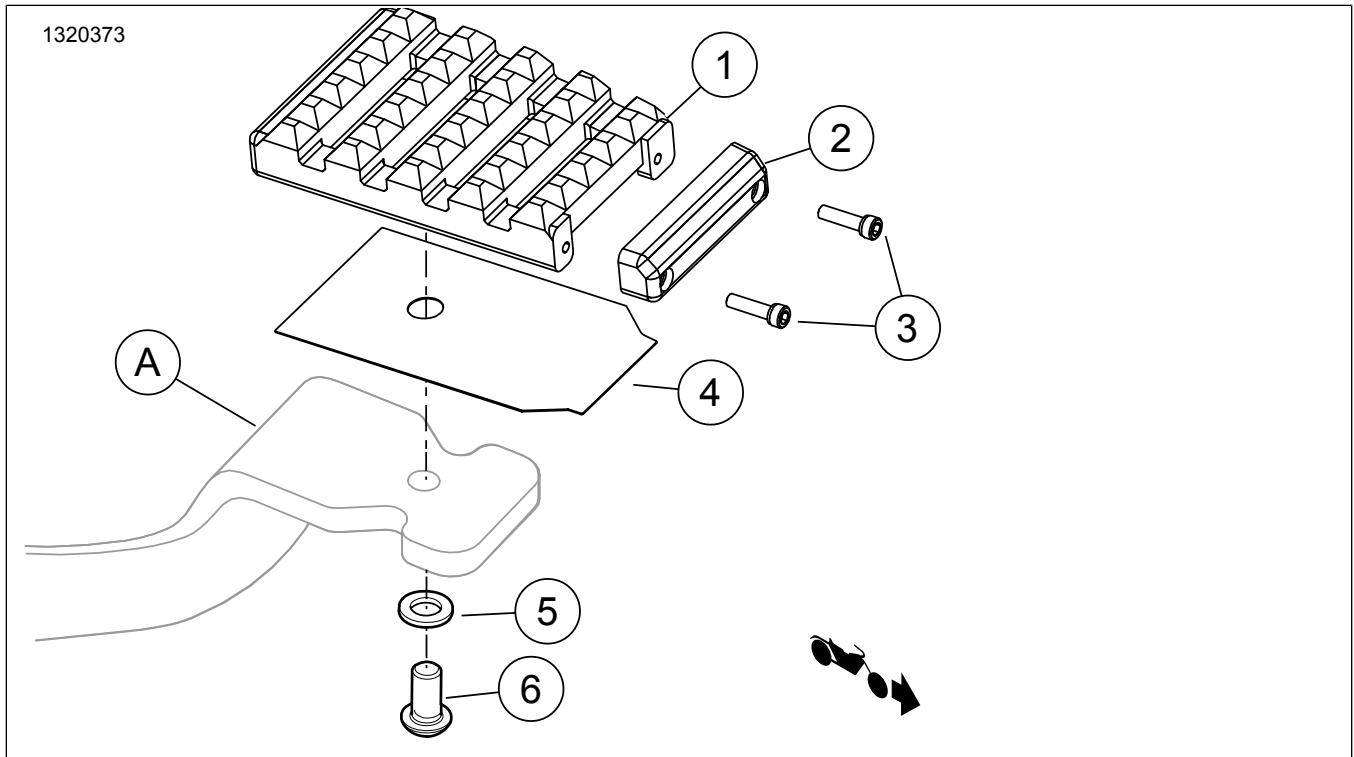

Figure 1. Kit Contents: Brake Pedal Pad Components
1. See Figure 1. Align and slide **new** brake pedal pad (1) and insert (4) over the end of foot brake lever (A).
2. Assemble plain washer (5) and screw (6).
3. Thread screw (6) through hole in foot brake lever (A) and into back of brake pedal pad (1). Tighten.
1. See Figure 1. Remove screws (3).
2. Replace trim or wear peg (2) as applicable.
3. Apply one drop of threadlocker to screws (3).